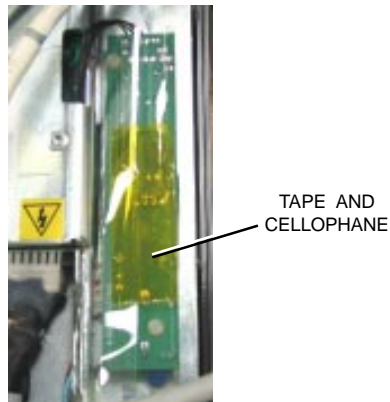

Figure 11
8. Reapply the cellophane with tape retained in step 3. *Refer to Figure 11.*